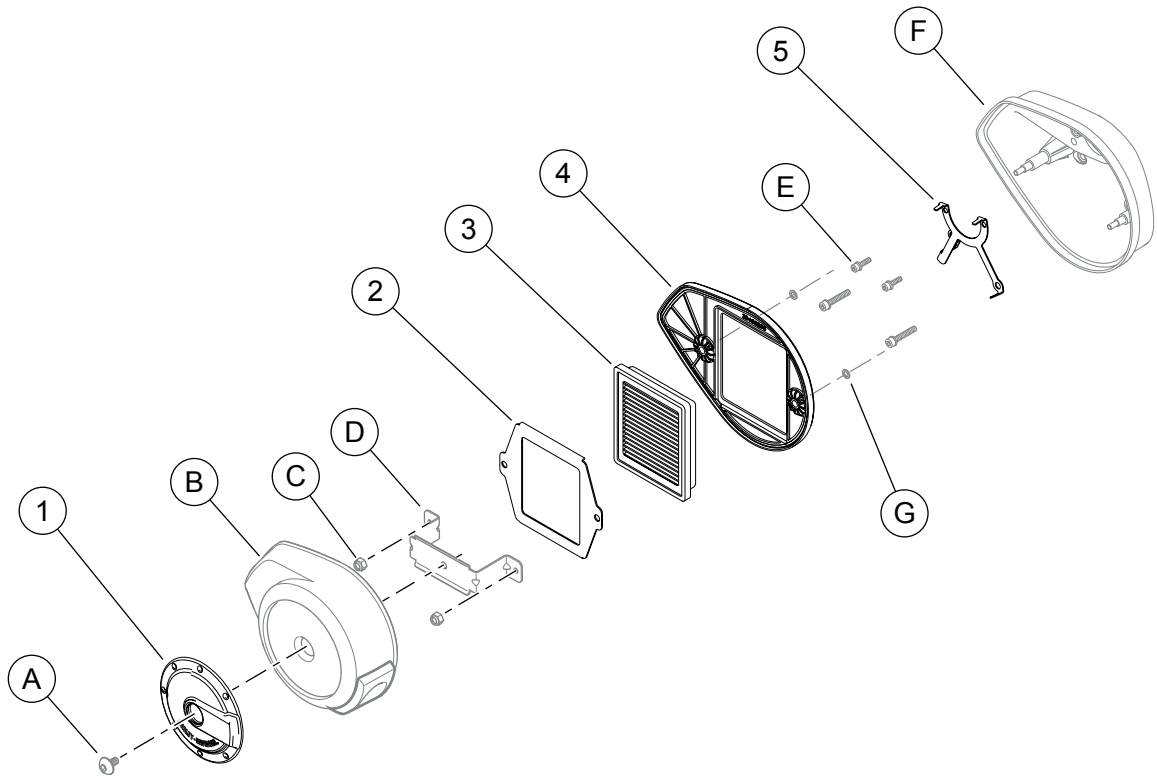

Figure 2. Service Parts: Screamin' Eagle Air Cleaner Kit
See Figure 2 and Table 1.
1. See Figure 2. Install original backplate (F) and screw retainer plate (5).
- a. Secure screw retainer plate and OE backplate to throttle body with OE screws (E).
- b. Secure screw retainer plate and OE backplate to engine crankcase with OE screws (E).
See Figure 2. Verify seal washers (G) are in place and in good condition.
3. See Figure 2. Install filter and retainer. Install with original bracket (D) and nuts (C).